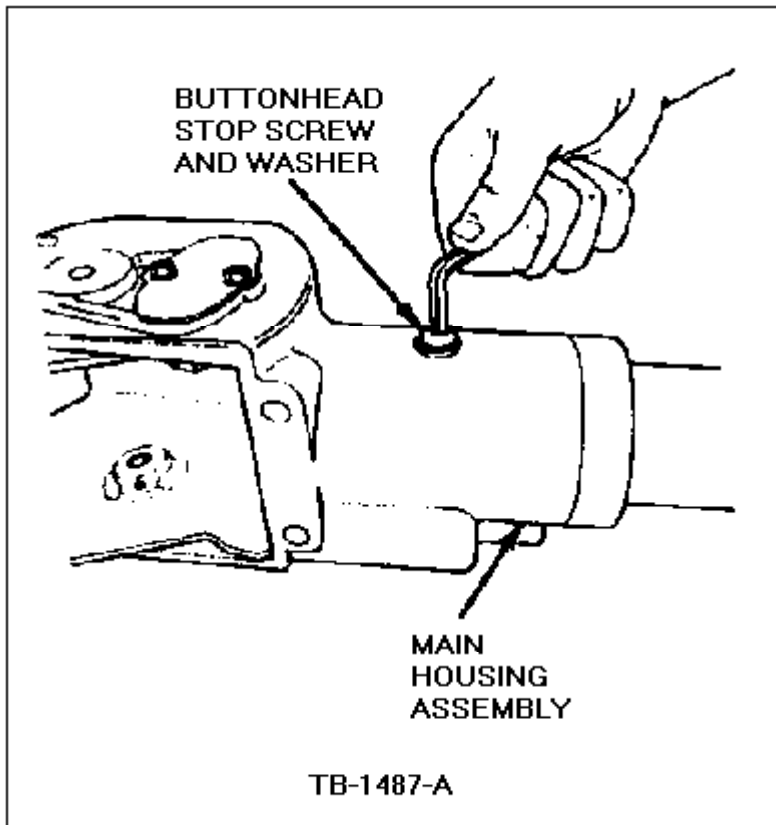

Figure 20 - Article 90-5-10
23. Remove the button head stop screw and internal lock washer from the main housing assembly, Figure 20. A 3/16 inch Allen wrench is required.